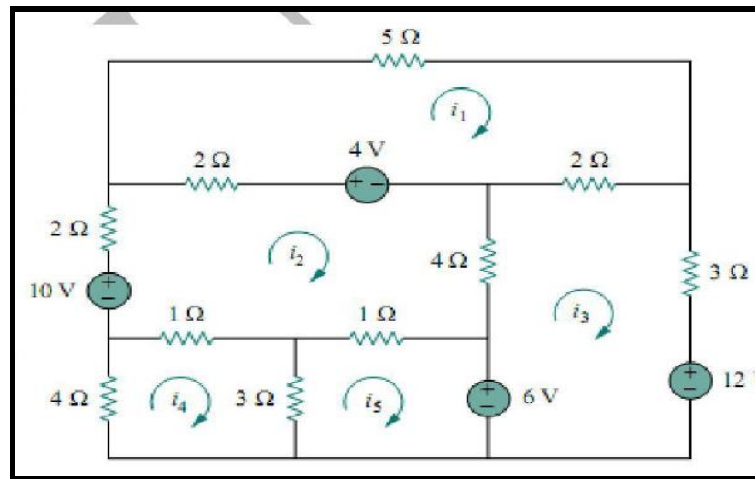

Figure 1: The Circuit need to solve used mesh analysis
- The Resistance matrix and the voltage vector of the Circuit shown in the Figure 1 were found, and a MATLAB program was written to solve the Meshes Current:
- **Part 1:** For the circuit shown in the Figure 1, the matrix shown in step 1 in results part describe it and the Code 1 in Appendix A.1 was used to solve the meshes current, the results are shown in the step 1 in result part .
- **Part 1:** the Matrixes describe the Circuit shown in the Figure 1: